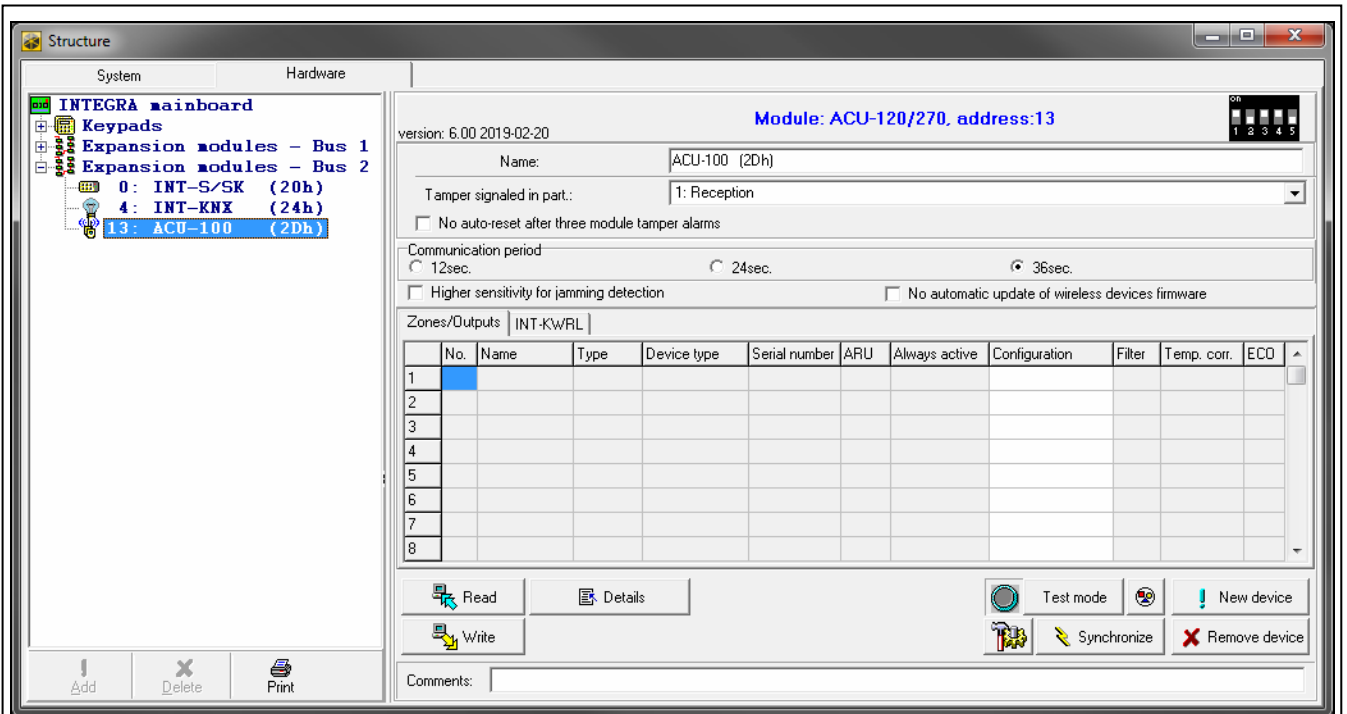

Fig. 10. DLOADX program: parameters and options of the controller connected to INTEGRA / INTEGRA Plus control panel.
- DLOADX program: “Structure” window →“Hardware” tab →“Expansion modules” branch →*[controller name]* (Fig. 10).